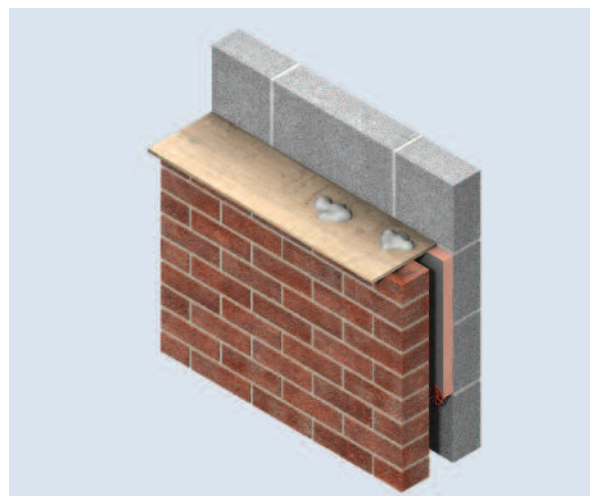

Figure 7 – Use of a Cavity Board to Protect the Cavity and Insulation Board Top Edge
- Use of a cavity batten or cavity board is recommended to protect board edges and maintain a clear cavity (see Figures 7 & 8 or refer to BBA Certificate 94/3047 or NSAI Agrément Certificate 09/0329).